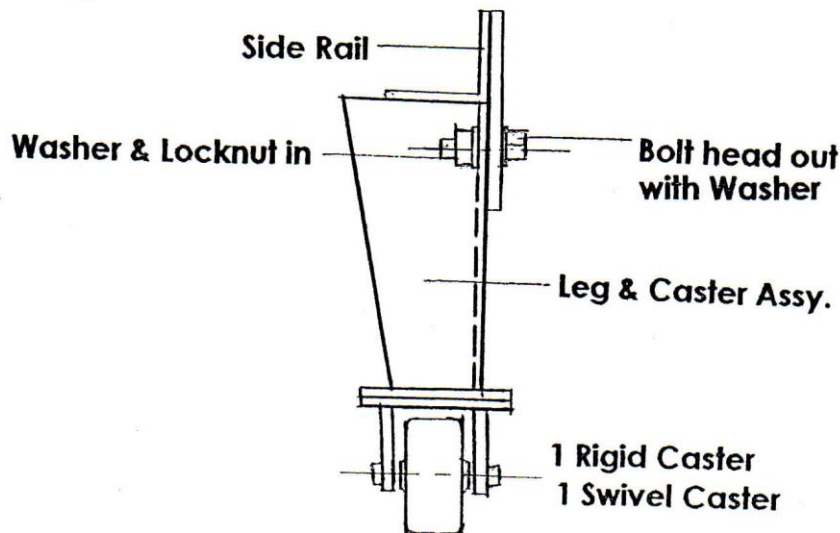

Figure 1.
1. The first step is to bolt the legs to the side rails. The LH leg should be installed on one end and the RH leg on the other end so that when the frame is fully assembled both LH and both RH legs are on opposite corners. Use the bolts, washers and lock nuts furnished, with bolt heads out. (See Figures 1 & 5)